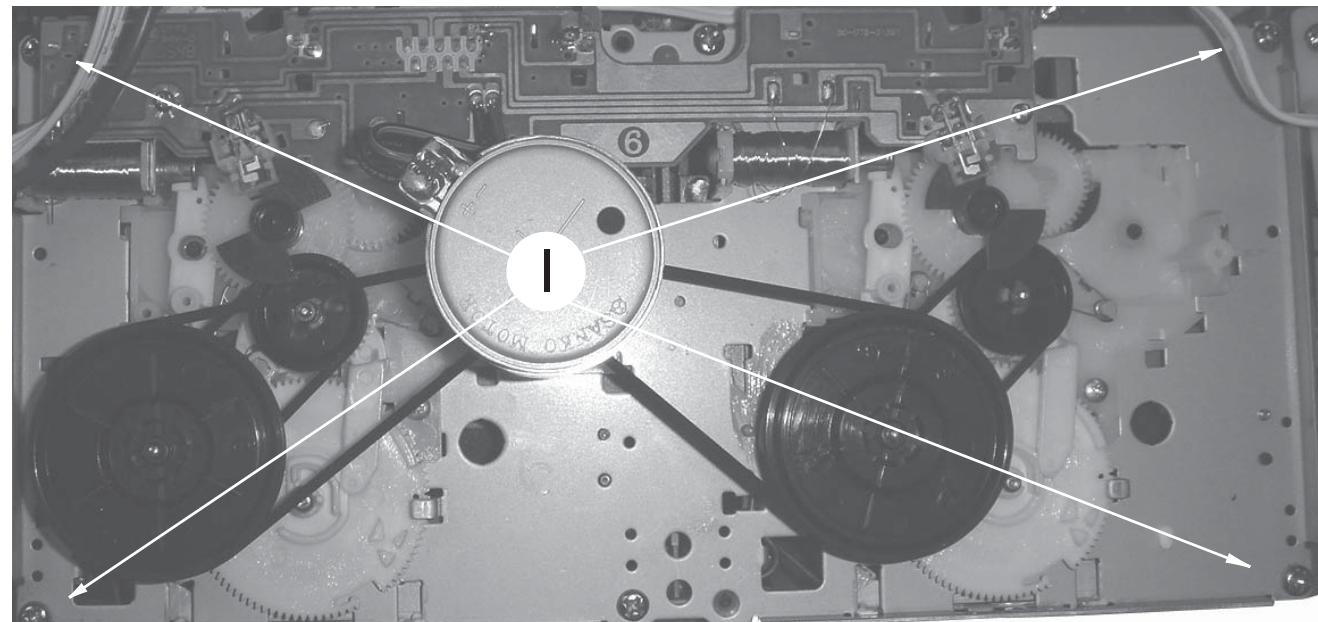

Figure 12
- 2) Loosen 4 screws 'I' to remove the Cassette Module figure 12.